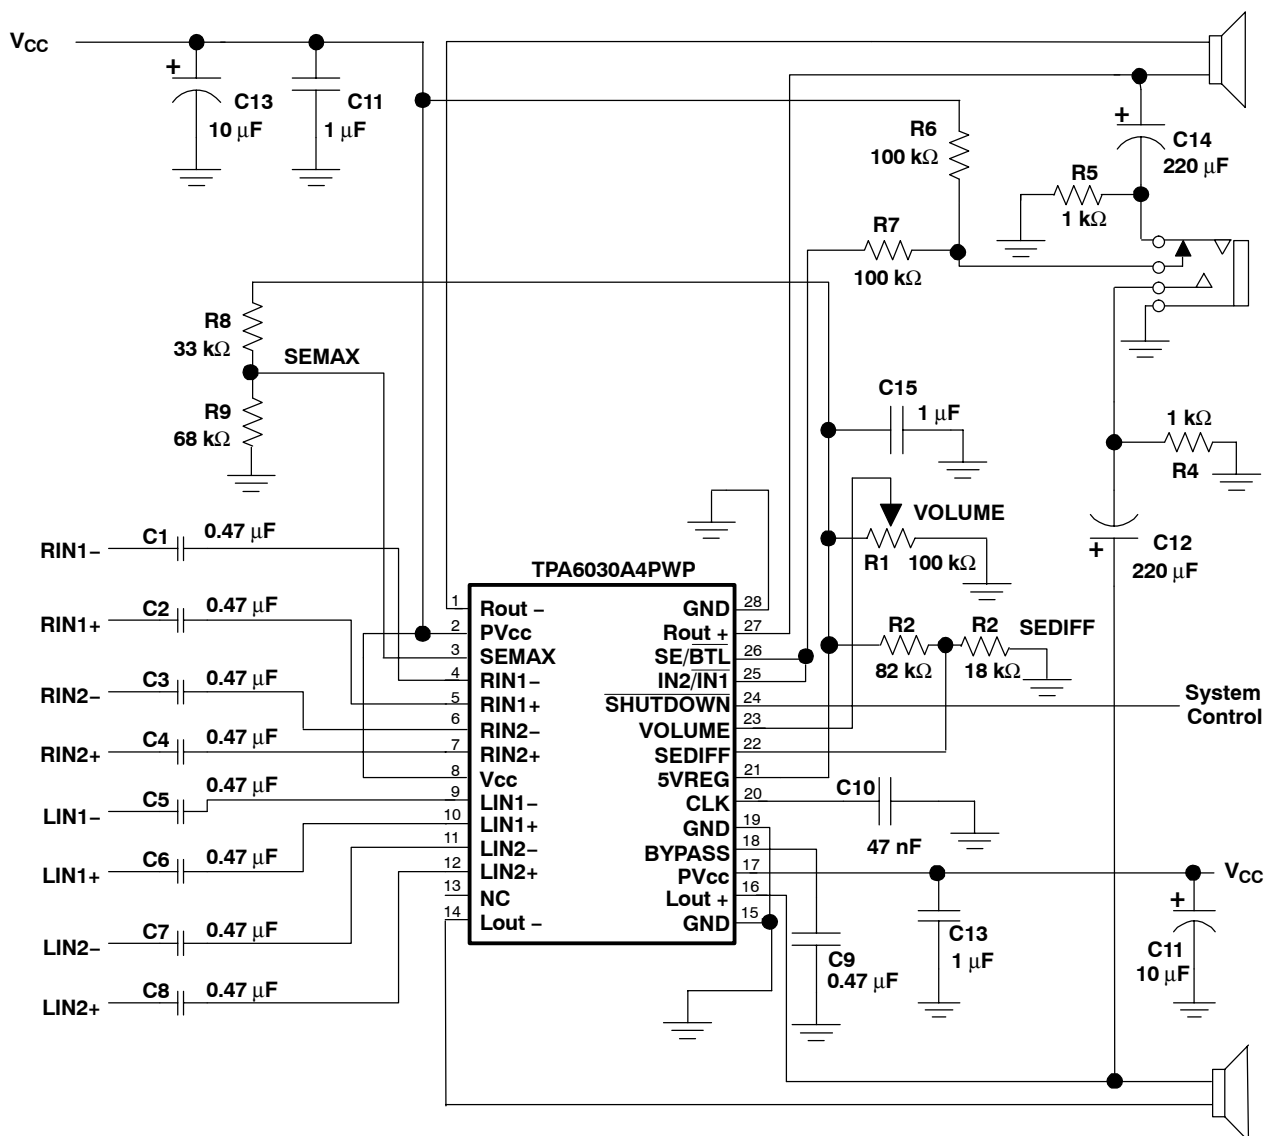

Figure 22. Typical Application Circuit for an LCD Monitor
The circuit shown in Figure 22 automatically switches between headphone outputs and speaker outputs when a headphone plug is inserted or removed from the headphone jack. Additionally, this circuit uses resistor divider networks to limit the headphone volume. Resistors R8 and R9 form a divider network that applies 67% of 5VREF to the SEMAX pin, which results in a maximum output of 7.2 dB. Resistors R2 and R3 form a divider network that applies 18% of 5VREF to the SEDIFF pin.
Using a readily available 1/8-in. (3,5 mm) stereo headphone jack, the control switch is closed when no plug is inserted. When closed, the parallel combination of R5 and R7 (see Figure 22) pulls the SE/BTL pin low⁽¹⁾, causing the device to operate in BTL mode. When a plug is inserted, the 1-kΩ resistor is disconnected and the SE/BTL input is pulled high⁽¹⁾. When the input goes high⁽¹⁾, the negative output amplifiers go into a state of high impedance, essentially open circuiting the speaker. The positive output amplifiers then drive through the output capacitor (CO) into the headphone jack.
In some applications, it may be desirable to have one input specifically for BTL operation and one input specifically for SE operation. This is accomplished by tying the SE/BTL and IN2/IN1 pins together and connecting them to a common control voltage. An example of this type of configuration can be found in Figure 22. The two pins are tied together and are connected to the resistor divider network. That network is connected to the stereo headphone jack, and is closed when no plug is inserted. This pulls both the IN2/IN1 and SE/BTL pins low, causing the amplifier to go into BTL mode using the IN1 (RIN1 and LIN1) inputs. Should a headphone plug be inserted into the headphone jack, both inputs would be pulled high, and the amplifier would be in SE mode using the IN2 inputs.